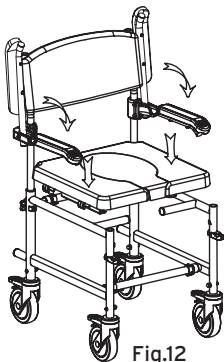

Fig.12
- Place the seat on the wheelchair frame and press down to fix its position, then add the cover (Fig.12);